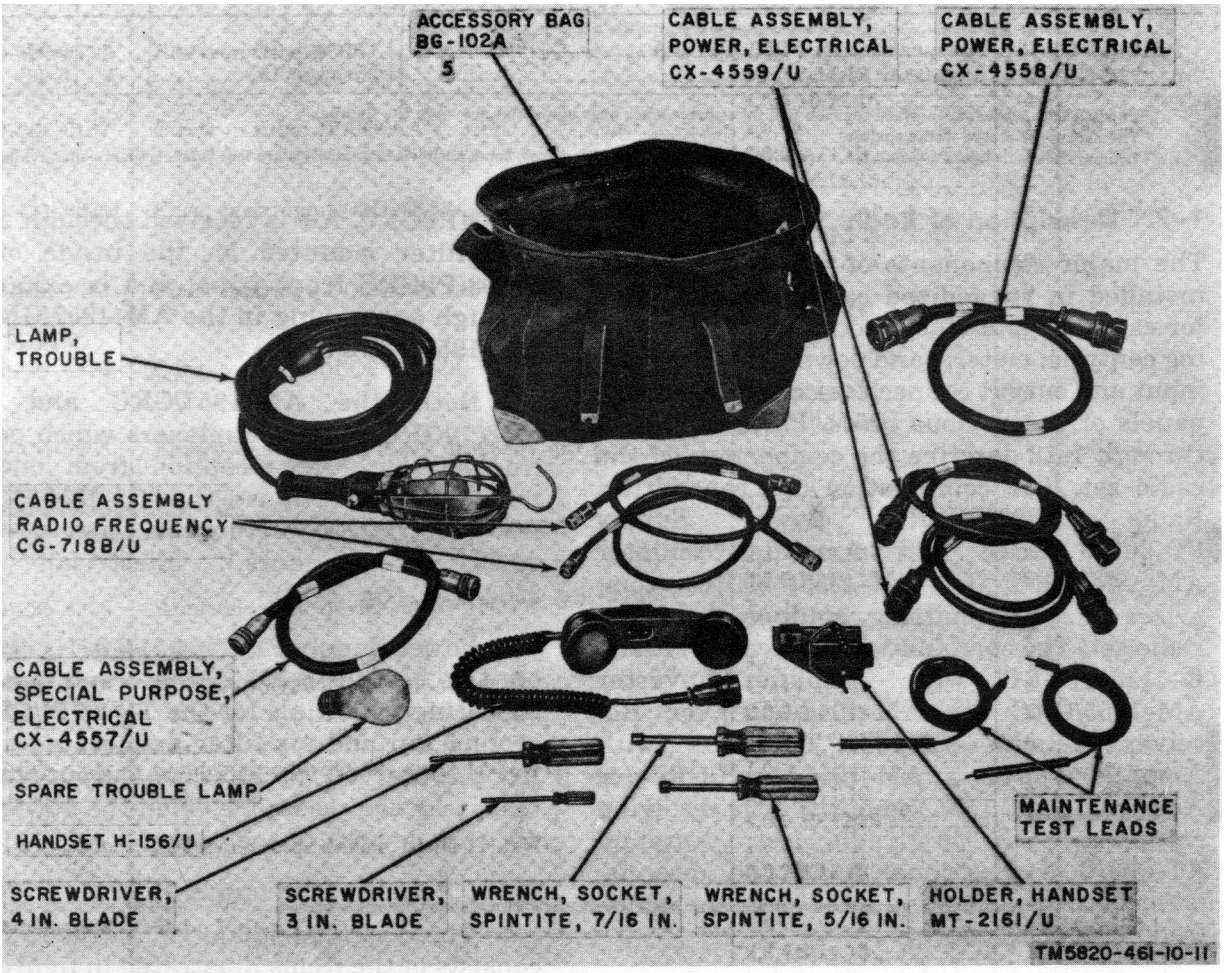

Figure 1-2. Accessory Bag BG-102A, with contents.
c. *Handset H-156/U*. Handset H-156/U (fig. 1-2) is a lightweight telephone handset used for order-wire communication. The handset cord terminates in a connector which attaches to the HANDSET connector on the front panel of the R-1148(P)/GRC or R-1331(P)/GRC. A press-to-talk switch is provided on the side of the handset.